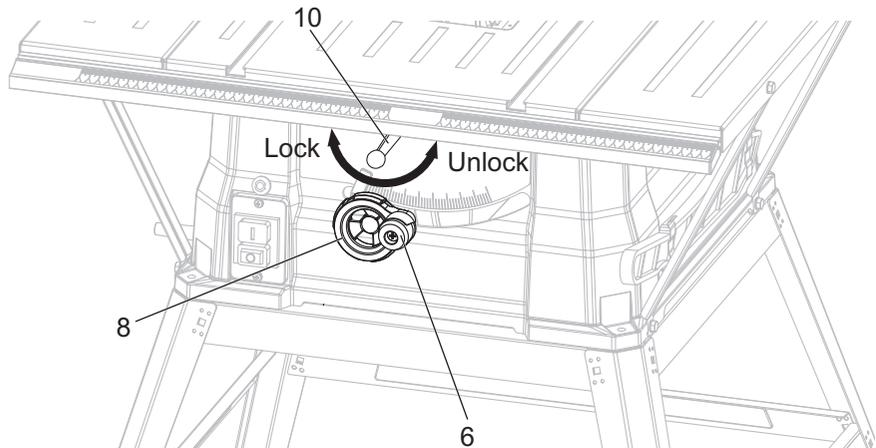

Fig. 25
- > The bevel locking handle [10] locks the blade in the desired tilting angle. To loosen turn it anti-clockwise. When setting the angle of the cut fully loosen it. Before turning the table saw ON, be sure it is securely tightened so that the blade will not shift during the table saw operation. (See Fig. 25)
- > The saw blade can be adjusted steplessly between 0° and 45°. The bevel adjusting handwheel [8] is used to tilt the blade for bevel cutting. Loosen the bevel locking handle [10], then turn bevel adjusting handwheel clockwise to tilt toward the left and anti-clockwise to tilt toward the right. (See Fig. 25)
- > The height adjusting handle [6] is used to raise and lower the blade. Turn clockwise to lower the blade and anticlockwise to raise it. (Fig. 25)